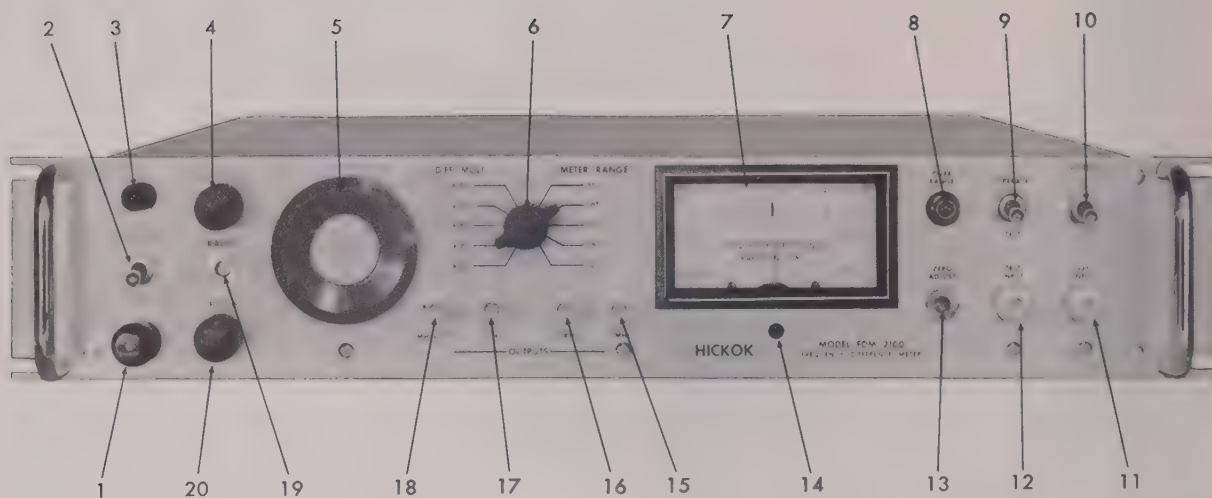

Figure 3-1. Front Panel Controls and Connectors
3-2. Figures 3-1 and 3-2 identify the front and rear panel controls and the operator should familiarize himself with the purpose and function of each as detailed in table 3-1. Note that the front panel input jacks have been duplicated on the rear panel for convenience in rack-mounted applications. Ascertain
3-7. The mechanical meter adjustment should be made before using the FDM2100 if, with no power applied to the instrument, the meter pointer does not coincide with the center-scale zero mark on the meter dial. If adjustment is required, the mechanical meter adjustment screw (14, figure 3-1) should be adjusted to produce the desired coincidence with no power applied to the instrument.
b. Set the TEST-OPERATE switch to the TEST position and adjust the electrical METER ZERO control (13, figure 3-1) for zero meter indication (center-scale).